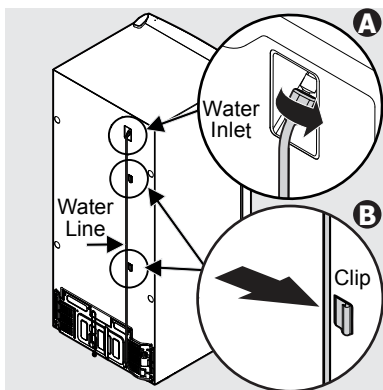

Figure 14
11. Install the water line by screwing the nut on the end of the tube onto the water inlet. Tighten the nut until snug, and then tighten an additional  $\frac{1}{4}$  turn with needle nose pliers. See Figure 14.